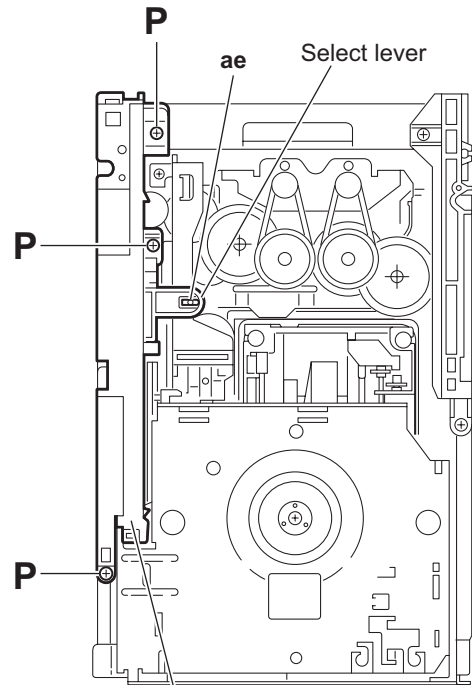

Fig.26
- (5) Remove the three screws **P** and detaches the side (R) assembly upward. (See Figs.26 and 27.)
When reattaching the side (R) assembly, make sure to fit the shaft (part **ae**) into the slot of the select lever. (See Fig.26.)